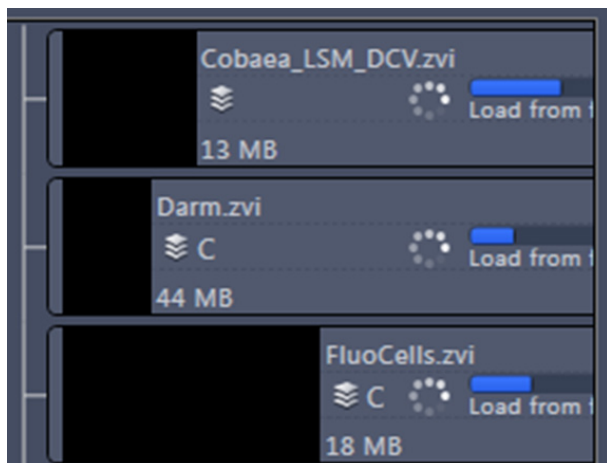

Fig. 279 Image progress bar
- A progress bar (Fig. 279) is shown for each image facilitating the overview if e.g. many processing function are running at the same time.